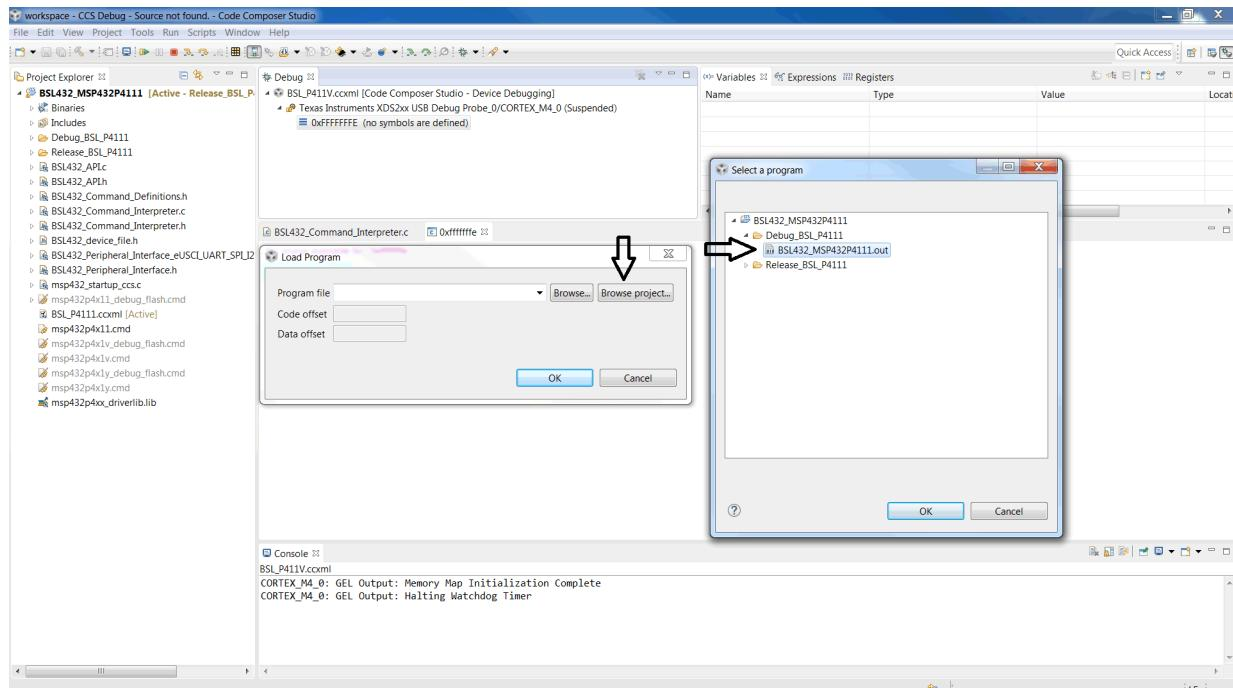

Figure 17. Select .out File
8. In the Load Program window, click *Browse Project* and select the .out file (see Figure 17).